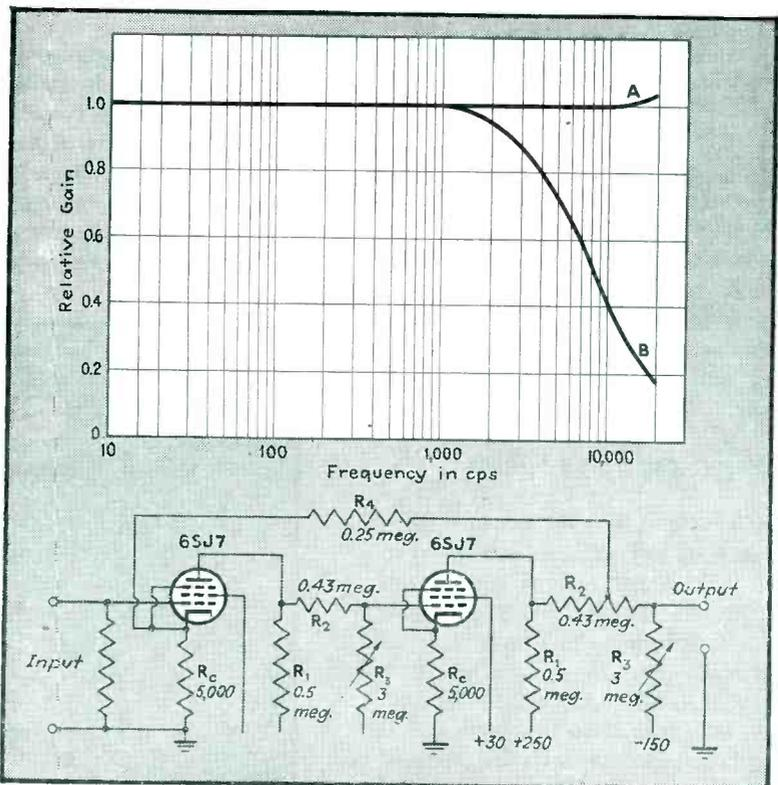

Fig. 4—A two-stage direct-coupled amplifier employing negative feedback. Curve A shows the frequency response with feedback; B, without feedback.
If negative feedback is applied to a two-stage amplifier, (or any even number of stages), such as shown in Fig. 4 the feedback resistor  $R_f$  has to be connected from the plate circuit of the last stage to the cathode resistor of the first stage. As a result of this, there is an undesirable loss of amplification due to two effects: (1) the un-bypassed cathode resistor  $R_c$  in the first stage, and (2) the loss in gain of the second stage due to the shunting of the plate load by  $(R_f + R_c)$ .